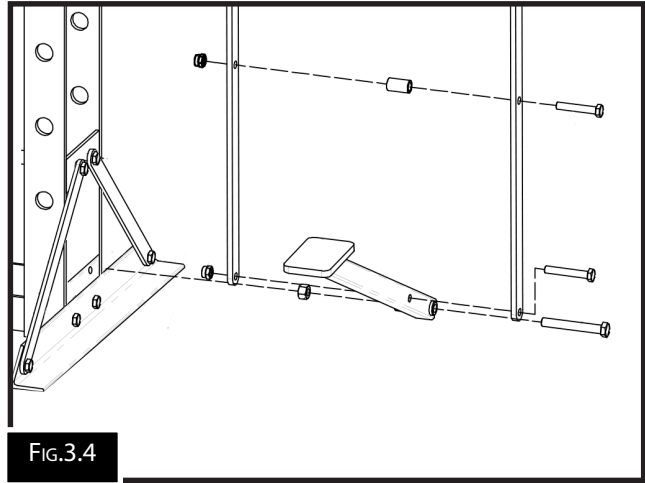

FIG.3.4
4. Secure the pedal assembly to the base of the press with a single bolt (Fig.3.4)